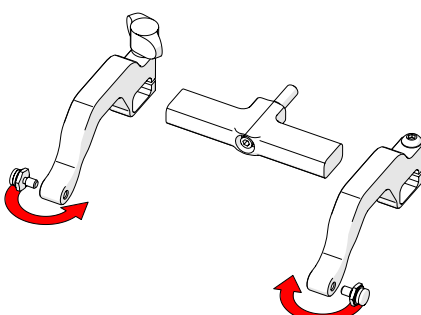

Fig. 100 - Position pivot buttons
5. Position the pivot buttons to the inside of the probe holder arms (Fig. 100).